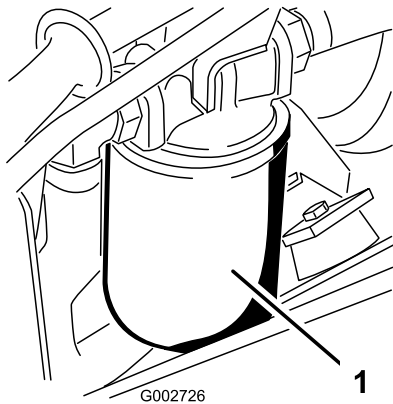

Figure 45
- Place a drain pan under the hydraulic filter, which is located at the left side of the machine (Figure 45).
- Install the new hydraulic filter (Figure 45) by turning it on by hand until the gasket contacts the filter head, then tighten the filter 3/4 turn further.